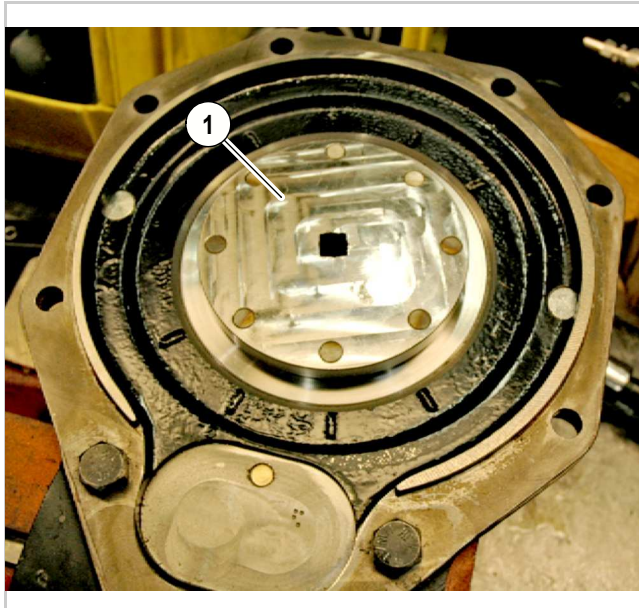

Fig. 24 (26434)
- Put the mounting bar (2) in the vise and tighten the vise.
- Torque the adjustment plate to 380 Nm (280 ft lb) with a spanner socket (1, Figure 24).